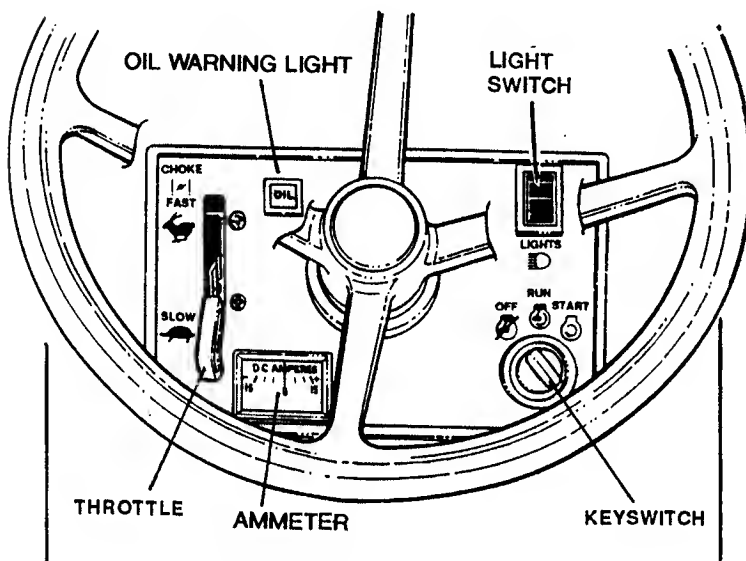

FIGURE 2
ENGINE: *STOP ENGINE* by turning the KEYSWITCH to "OFF". See Figure 2.
2. **CHOKE ENGINE** for cold starting by moving **THROTTLE CONTROL** to "CHOKE" position. (Little or no choking will be needed when restarting a warm engine). Refer to Figure 2.